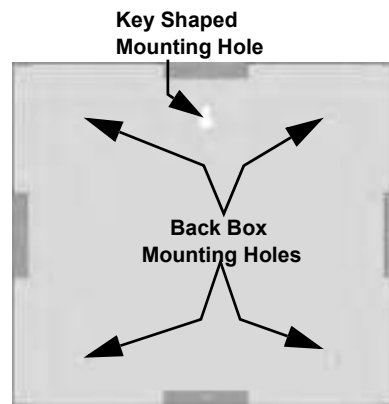

Figure 6: Back Box Surface Mount Holes
2. To properly mount the back box, insert a single screw into the key shaped mounting hole. Do not tighten all the way. See Figure 6.